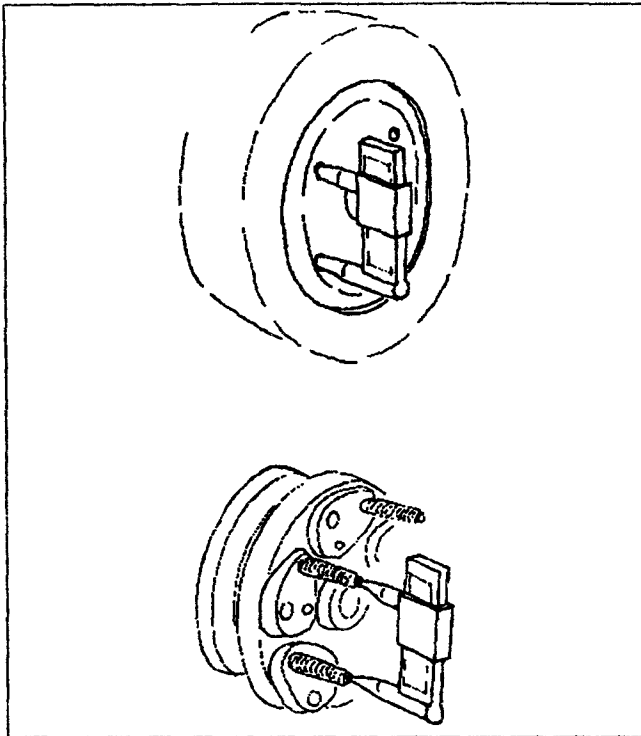

Fig.36
F. Adjust the studs at the right diameter (Fig.36).